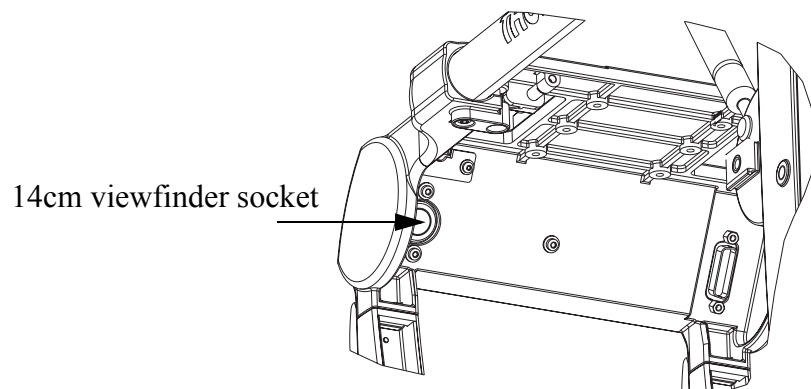

Figure 2.10: Position of the 14cm viewfinder socket
- 1) Fit the viewfinder bracket (1) to the mounting plate (2).
- 2) Tighten both fixing screws (3).
- 3) Connect the viewfinder behind the keypad. The position of the 14cm viewfinder socket is shown in Figure 2.10.